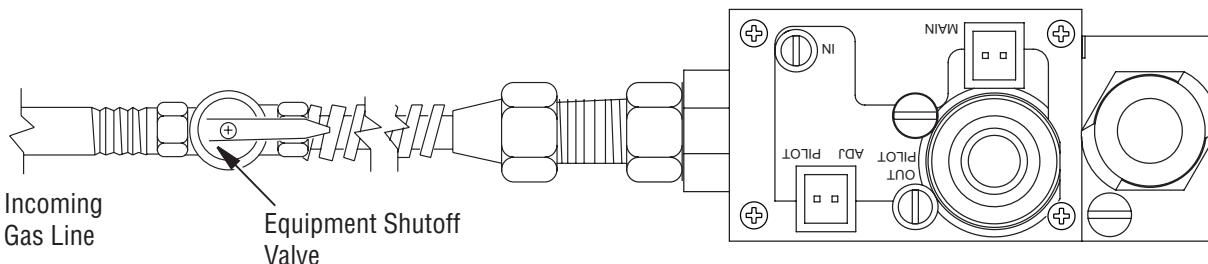

Figure 47 - Turning Equipment Shutoff Valve to the OFF Position
5. Turn equipment shutoff valve clockwise ↘ to the OFF position (see **Figure 47**). Do not force.
6. Wait five (5) minutes to clear out any gas. Then smell for gas, including near the floor. If you smell gas, STOP! Follow "B" in the safety information. If you don't smell gas, go to the next step.